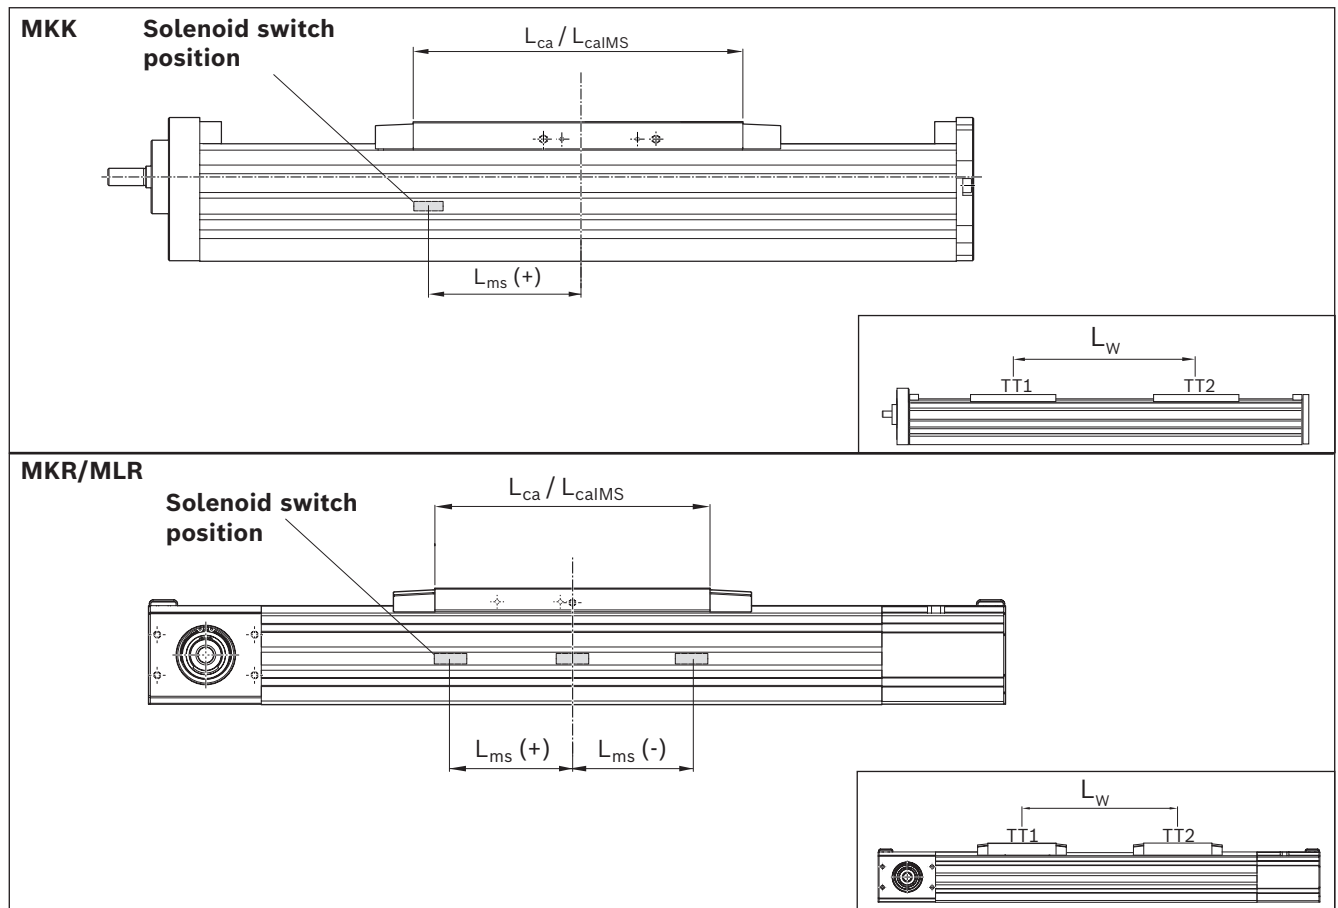

Fig. 22: Solenoid switch position for magnetic sensor
- The switch activator (both sides) is a magnet that is built into the carriage (no switching cam necessary). At versions with two carriages, the solenoid switch is always in carriage TT1. The switch activation points can be positioned anywhere along the stroke. The solenoid of linear modules MKR is integrated in + or - direction or centrally in the carriage (depending on size, see table 6 and fig. 22).